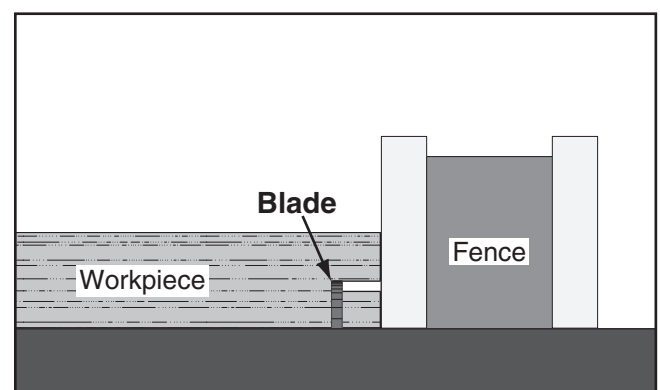

Figure 77. Second cut to create a rabbet.
6. Lay the workpiece on its side, as shown in **Figure 77**, adjust the saw blade height to intersect with the first cut, and perform the second cut to complete the rabbet.